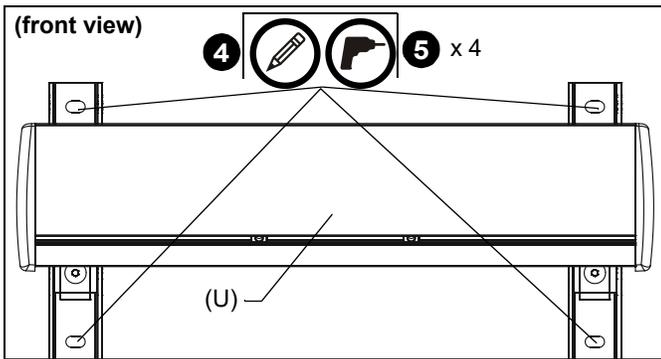

Figure 3
4. Mark four locations for projector mount wall bracket (U) attachment over studs. (See Figure 3)
5. Drill one pilot hole (see Table 1 for size) at each location marked in Step 4 (See Figure 3) and follow fastener information (appropriate for wall type) located in Table 1.